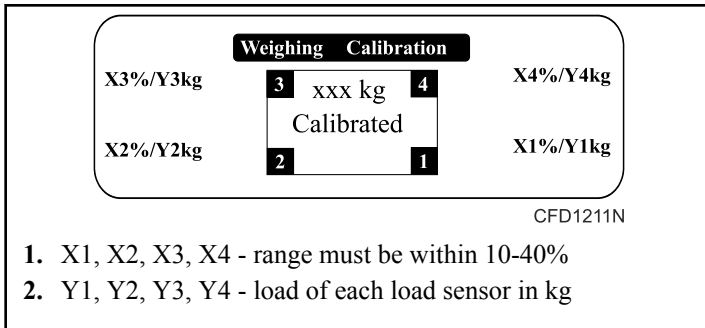

Figure 29
9. Check and, if necessary, adjust the height of the load sensor feet so that an even load distribution among all the load sensors is ensured. Refer to *Figure 29*.